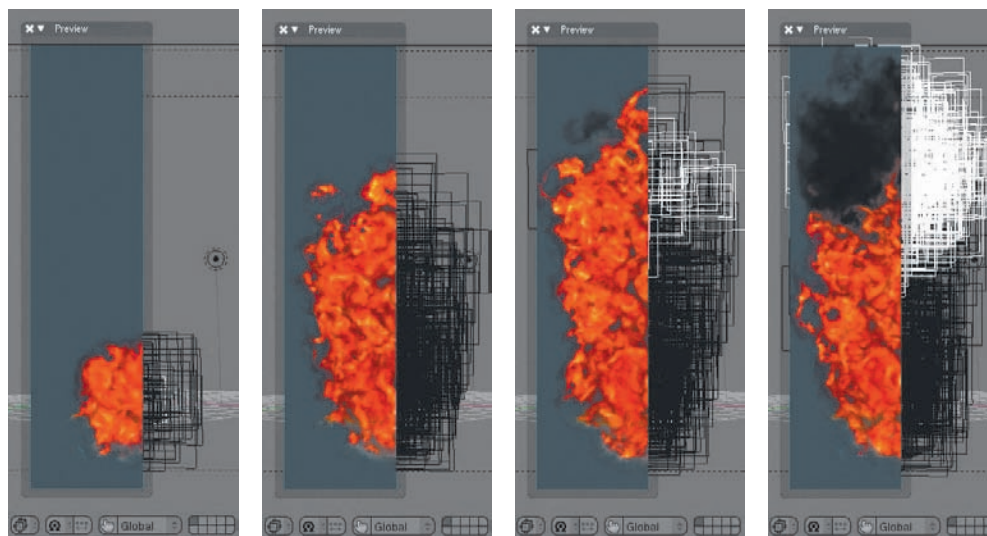

Figure 2.46 Smoke material settings
13. Press Alt+A or the Play button on the Timeline to play the animation. At present, the animated particle flame looks something like Figure 2.46. The preview window shows what the flame and smoke looks like, and the actual 3D view shows how the billboard particle systems are being emitted. The effect is almost finished, but not quite. Although it's true that real smoke does rise from the top of a flame, the